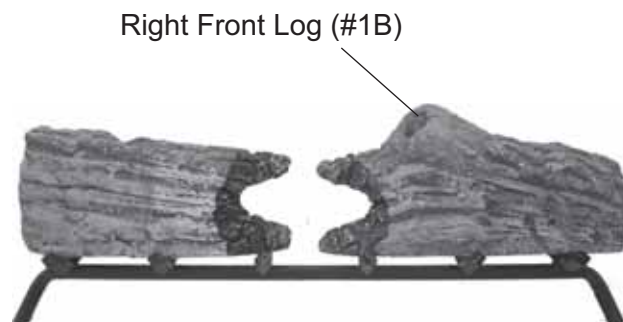

Figure 114 - Placing Right Front Log (#1B) on Grate
3. Place Right Front Log #1B on front right of the grate. *See Figure 114.*